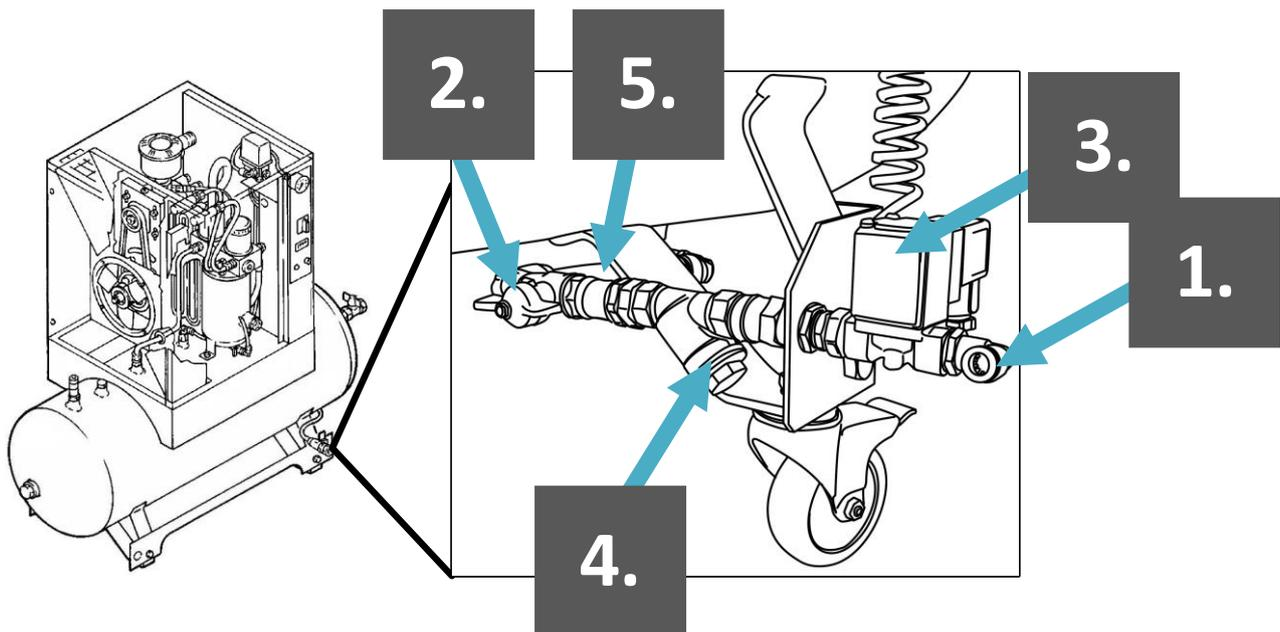

Figure 28. condensate drain on compressor connected to expansion system.
1. Remove the drain hose from the angled push-in connection (Figure 28 no. 1) so that it can be checked if the electric relief valve lets air through (Figure 28 no. 3), the exhaust frequency is 2 seconds open and 120 seconds closed. When the valve is closed, there must be no air leakage through the valve. If there are air leaks, the relief valve is dirty or defective.
2. Connect the red ball valve (Figure 28 no. 2).
4. Open the electric valve (Figure 28 no. 3) and clean the inside. Inspect the interior and replace if necessary. Then put the exhaust valve back together.
5. Open the dirt trap (Figure 28 no. 3) by unscrewing it at the bottom of the trap. Clean the gauze of the dirt trap and remove any remaining dirt from the house of the dirt trap. Then mount the gauze and the cap back together.
6. Check the hose (Figure 28 no. 5) between the ball valve and the compressed air tank. Make sure it is in good condition. If not, the tubing must be replaced. Pay attention! The pressure vessel of the compressor must be emptied for this. This can be done by turning the valve carefully open if the dirt trap is open. For this, the compressor must be shut down. For this see: 'The compressor manual'.
7. Open the ball valve. Check if the relief valve is not leaking and mount the drain hose back on the push-in fitting (Figure 28 no.1).